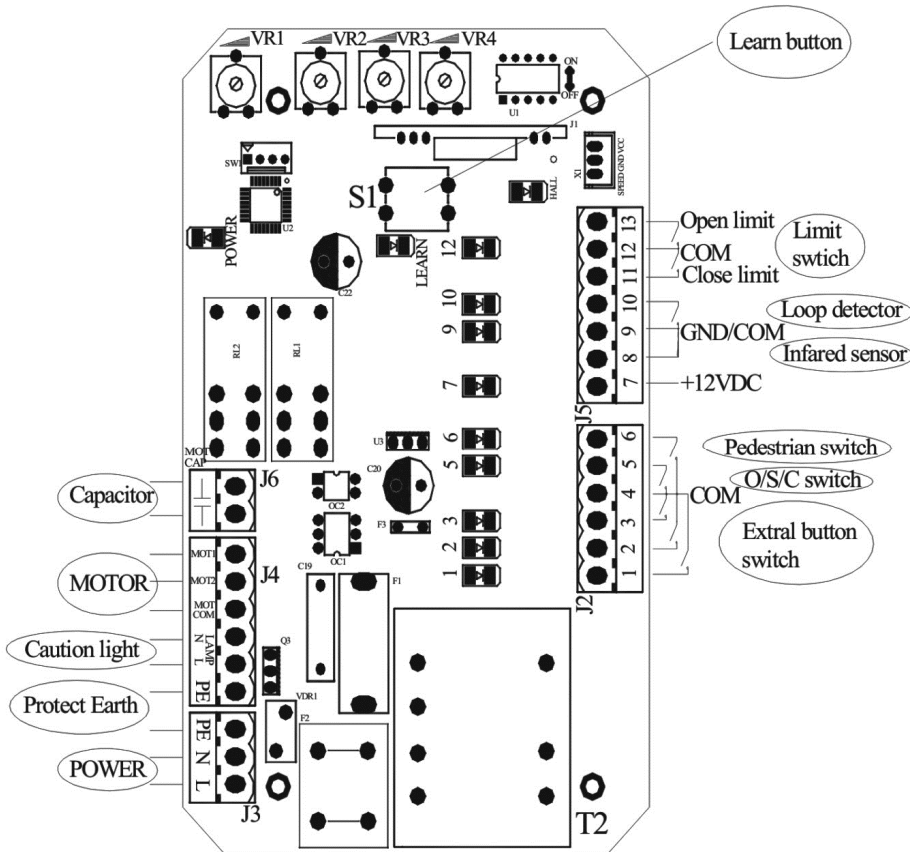

Fig.8
Remove the cover, perform the wiring (See Fig.8 and wiring notes for control board) and replace the cover again.
- a. Adjust of the Potentiometers (see Fig.8)
- Adding extra remote controls (Learn): Remove the cover, press and hold the learn button 'S1' (Fig.8) more than 2 seconds, then the 'LED of LEARN' (Fig.8) will be on, then press the remote control button which you want to use, the 'LED' will turn on about 2 seconds and then turn off again. The learning process is finished. Up to 25 remote controls may be used.